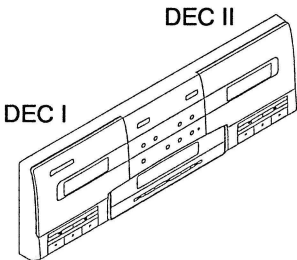
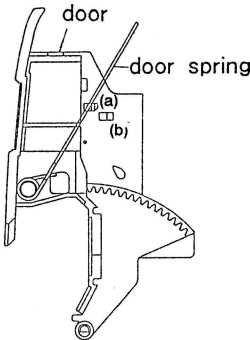

Fig. 6-2
Fig. 6-3
1. When assembling the front panel attach the door spring to the position (a) according to fig. 6-2, and stand the front panel assembly straight up as shown in fig. 6-3.